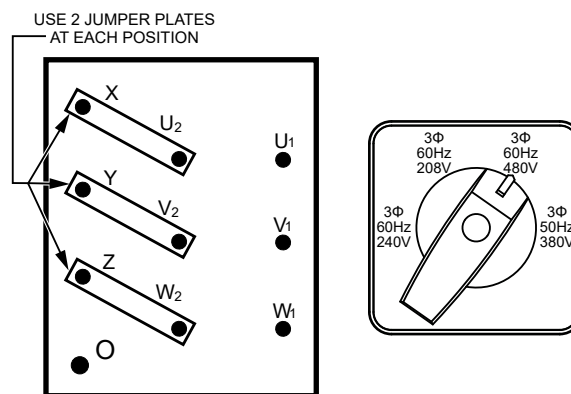

Figure 20. 3-Phase 480/277-Volt Configuration
1. Jumper the **voltage change-over board** for **480-volt operation** as shown in Figure 20. This configuration uses 6 jumper plates in 3 different positions. Remember there are 2 jumper plates at every position. Every jumper plate **must be used**.
2. Place the **Voltage Selector switch** in the **480-volt position** as shown in Figure 20.
1. Make sure the **voltage change-over board** is jumpered for **480-volt operation** and the **Voltage Selector switch** has been placed in the **480-volt position** as shown in Figure 20.